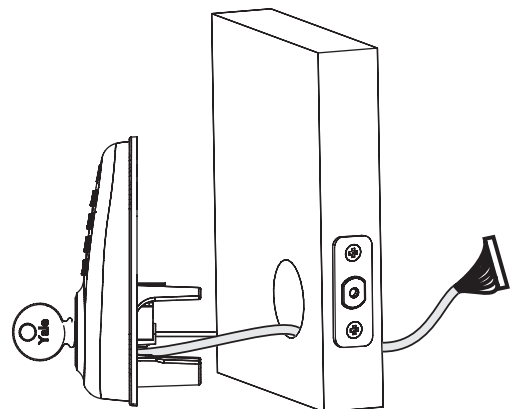

Figure 3A
- a. Ensure that gasket on Inside Mounting Plate is properly fitted. Note the positioning of the gasket's five rubber nubs (Figure 3A).
As you position the outside escutcheon, route the cable through 2-1/8" diameter hole (Figure 3A).